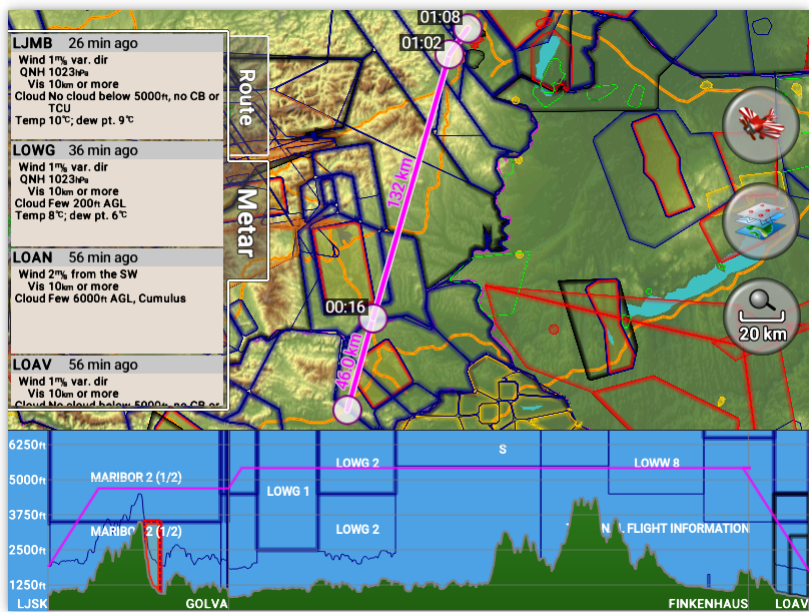

Figure 2.42: Example of METAR information along the route.
- A touch on the **Metar** tab will collect current METAR information from airfields close to the route and display this in a list form. Either an Internet access or an active FIS-B link connection is required for this command. Figure 2.42 shows an example.